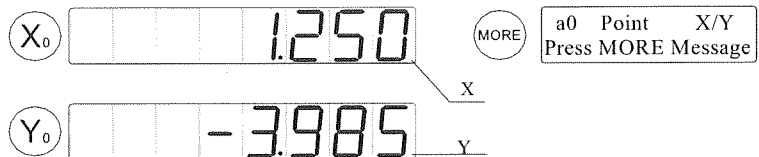

Figure 1-7
- a) In Cartesian coordinate, the displayed information of the. Point covers the current position of X and Y, together with the +T value. The displayed information as in figure1-7 indicates that it is an existing point feature. In Cartesian coordinate, its current position can be expressed as (1.250,-3.985). The second line displayed in the LCD window implies that if you